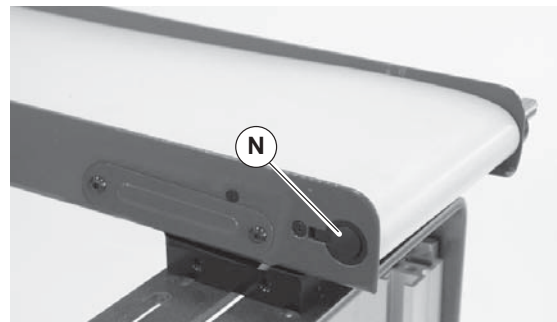

Figure 23
1. Remove plastic plug (Figure 23, item N)
- Replace plastic plug (Figure 23, item N).